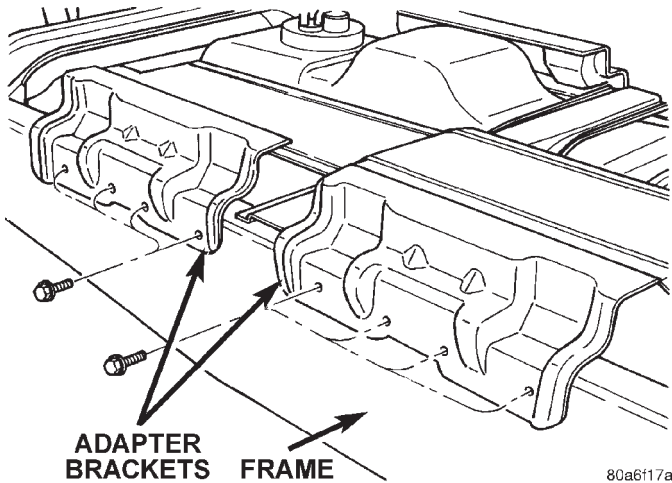

Fig. 4 Cab Chassis Adapter Brackets
- (1) Remove bolts attaching cab chassis adapter brackets to frame rail (Fig. 4)
- (2) Separate cab chassis adapter brackets from frame rail